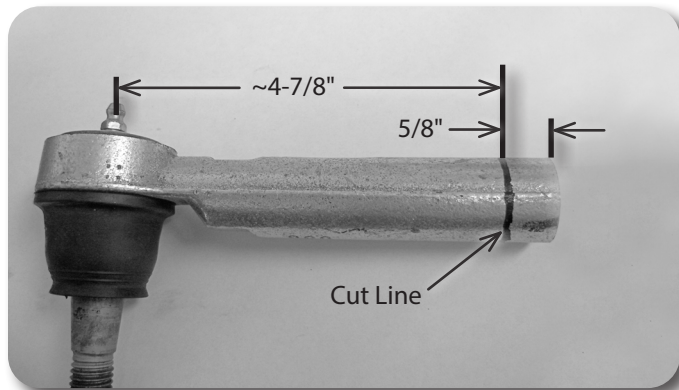
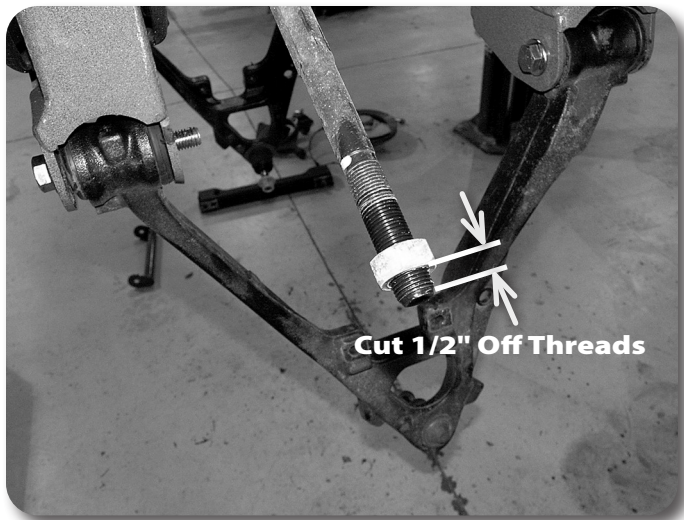

Figure 34
Figure 35
63. Working on one side at a time, remove the tie rod end from the steering link. Trim 5/8" off the tie rod end so the end to center measurement is approximately 4-7/8". **Figure 34**. Trim only 1/2" off of the steering link for maximum thread engagement. **Figure 35** Once the two pieces are trimmed, clean the ends of the threads and reinstall the tie rod end on the steering link so there is about 1/8" of threads showing on the steering link. Repeat on other side of the vehicle.